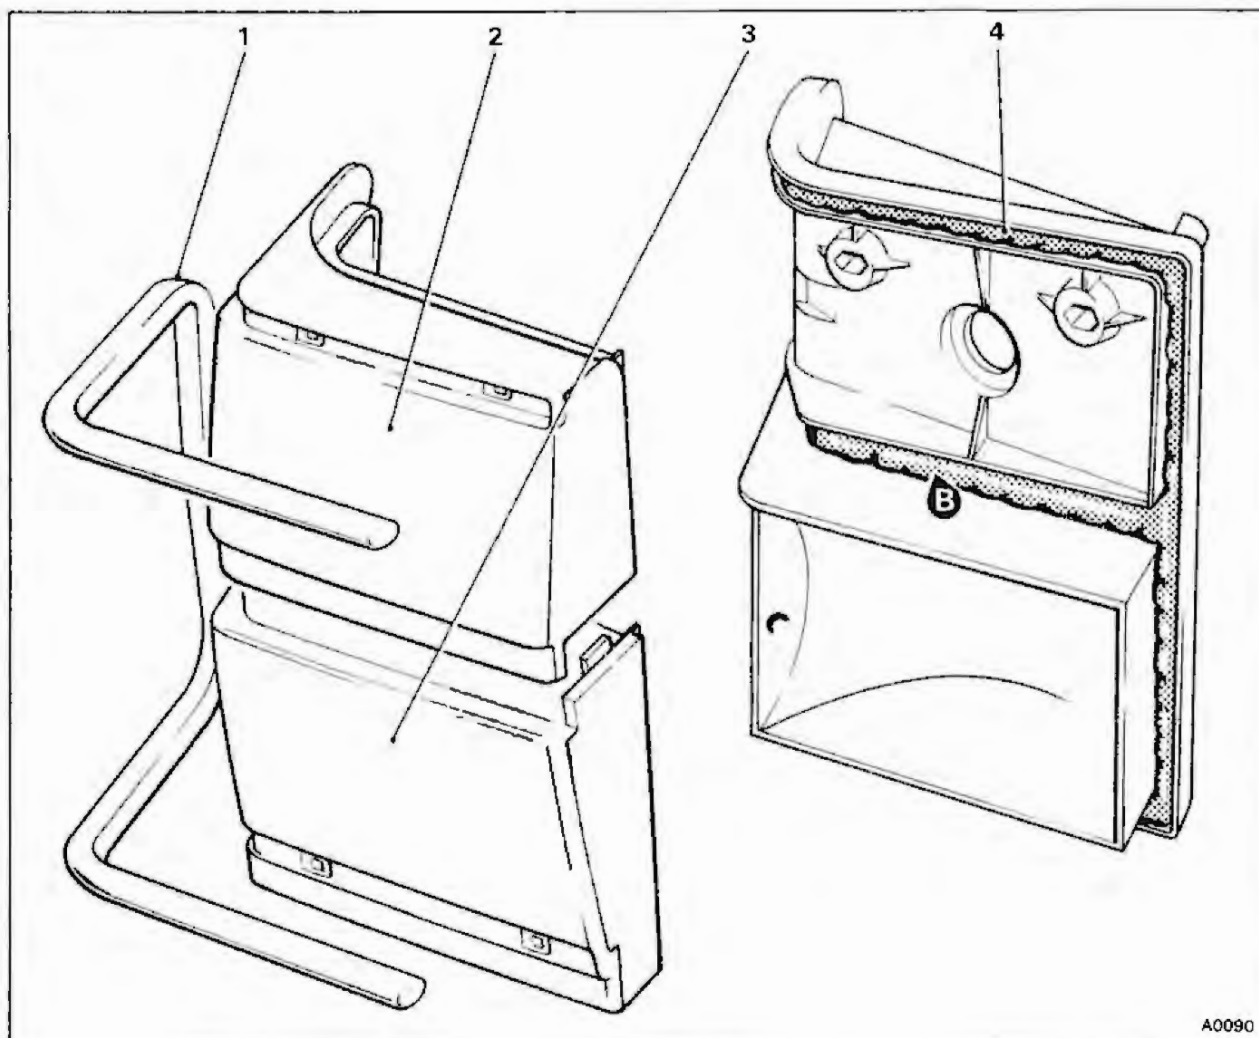
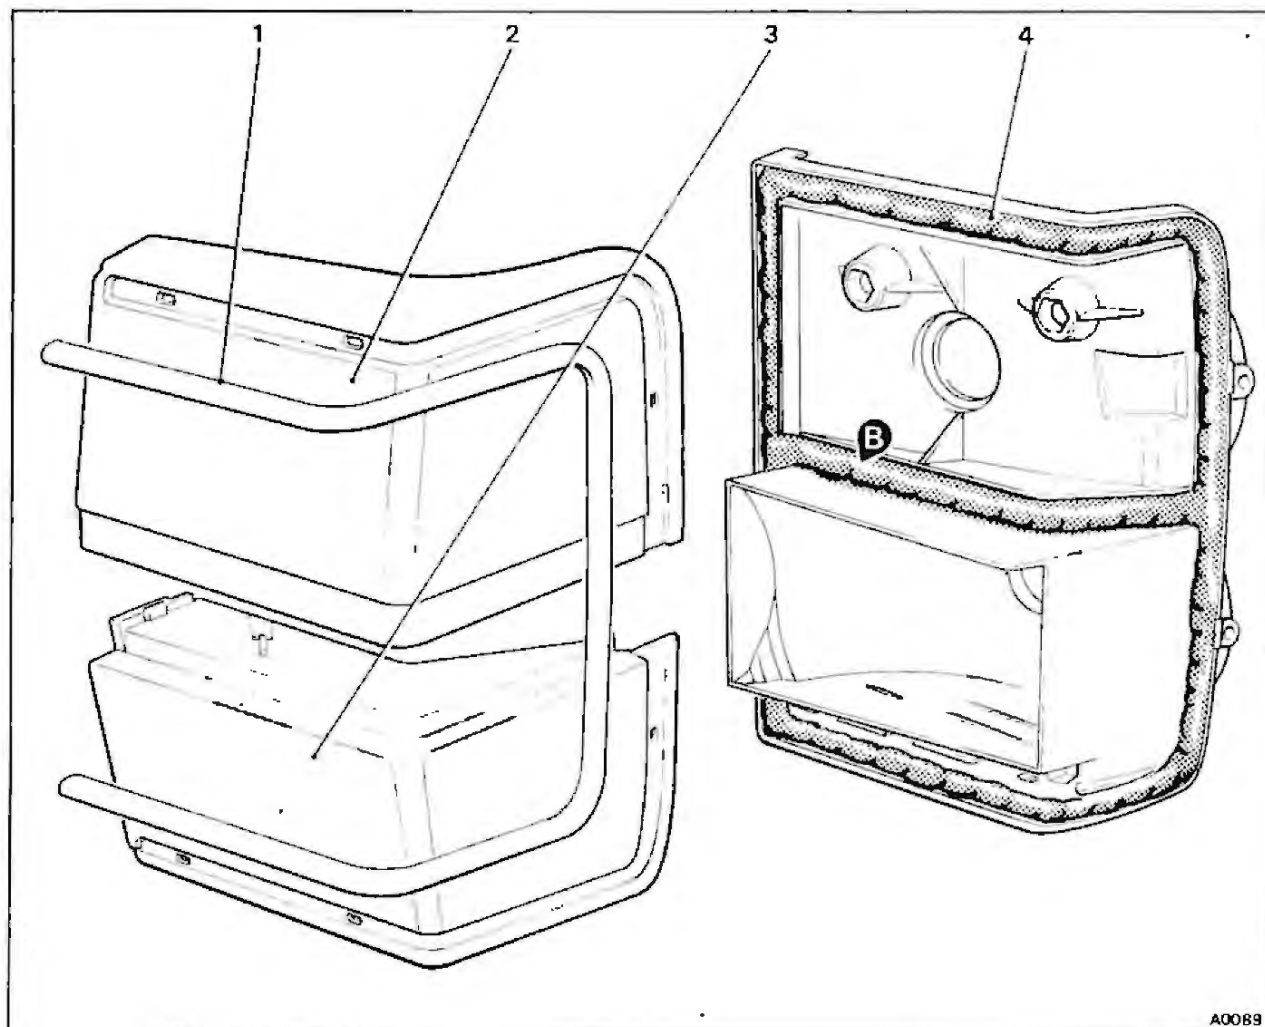

Fig. 2 Left-hand Tail Lamp Assembly UD 25275(UD 25273 - USA only)
Fig. 3 Right-hand Tail Lamp Assembly UD 25276(UD 25274 - USA only)
- 6 Apply a fresh bead of waterproofing sealant to the backing moulding (see fig. 2,B or fig. 3,B).